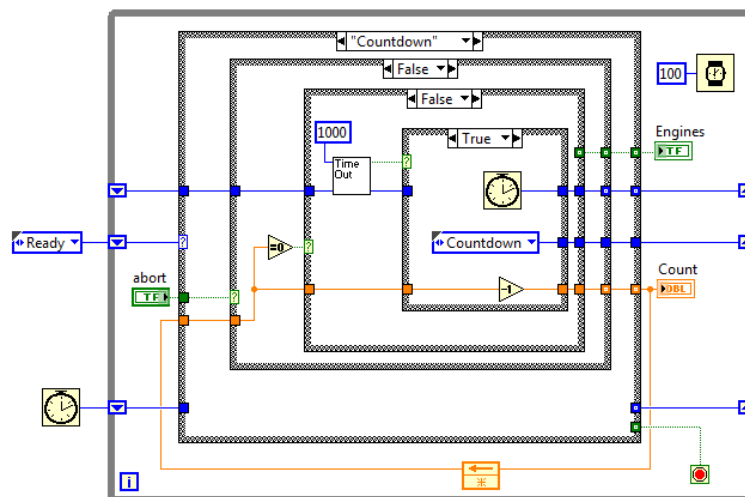

FIGURE 2.17 The Countdown state showing the code to handle expiration of the 1 second timeout.
3. Use the Timeout VI you made earlier, and a new, innermost case structure to give the code shown in Fig. 2.17. The case showing is what we do when the 1 second timeout has expired: we decrement Count by 1, and stay in the Countdown state.